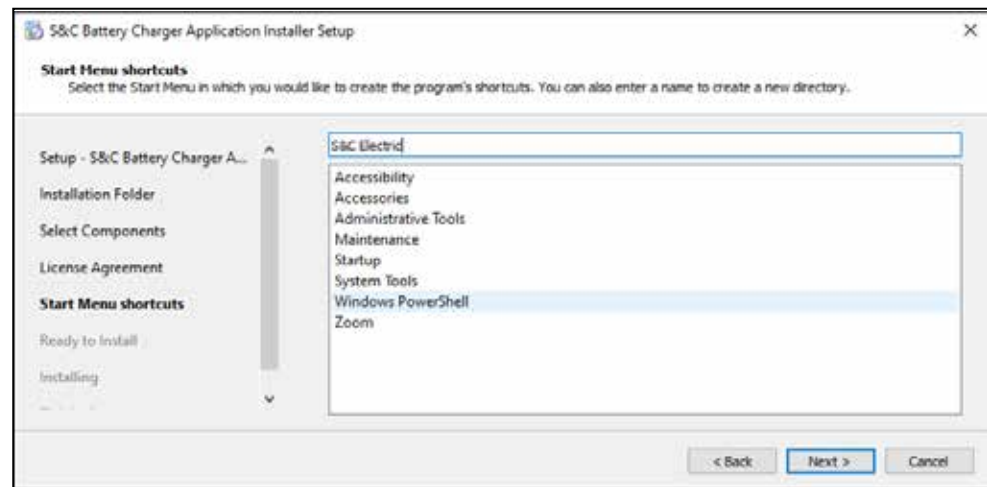

Figure 7. The *Start Menu shortcuts* screen
STEP 6. Select the **Start** menu in which you would like to create the program’s shortcuts. The **S&C Electric** menu is selected by default and will keep the S&C Battery Charger Application organized with any other S&C applications on the PC. See Figure 7. When finished selecting a location for the shortcuts, click on the **Next** button.